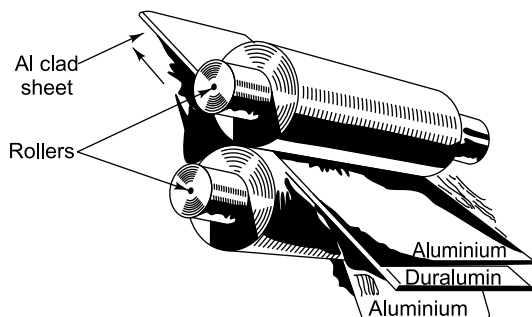

Fig. 1.22 The metal cladding of duralumin
- (c) *Metal cladding*: Metal cladding is a process in which a dense, homogeneous layer of coating metal is bonded firmly to the base metal on one side or both sides to impart corrosion and wear resistance. The choice of cladding material depends on the corrosion resistance required for the given environment. Some of the important corrosion resistant metals like Cu, Pt, Ag, Pb, Ni, etc. and alloys like nickel alloys, copper alloys, stainless steel, etc. are used as cladding materials. Some of the cladding methods include (i) rolling the clean sheets or plates of the two materials together (ii) applying the coating sheet by spot welding or resistance welding and (iii) fusing the cladding material on the surface of the base metal. One of these cladding methods is by arranging sheets of coating material and base metal in the form of sandwich, which in turn is passed through rollers under the action of heat and pressure (Fig. 1.22).